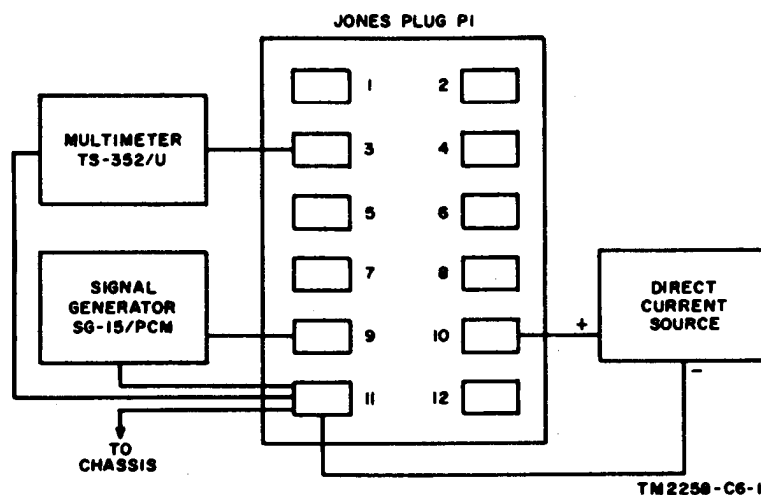

Figure 196. Test equipment setup for unregulated dc output voltage test.
b. Output Voltage Test (fig. 196).
(1) Make the following Jones plug connections:
(2) Connect Signal Generator SG-15 (*)/PCM to terminals 9 and 11. Adjust the SG-15/PCM output to 1,000 cycles per second at 35 volts.
(3) Connect a regulated 250-volt direct current source to terminals 10 and 11, as shown in figure 196.
(4) The following listed output voltage requirements should be met with the specific input voltage supplied through Transformer, Variable, Power CN-16/U.